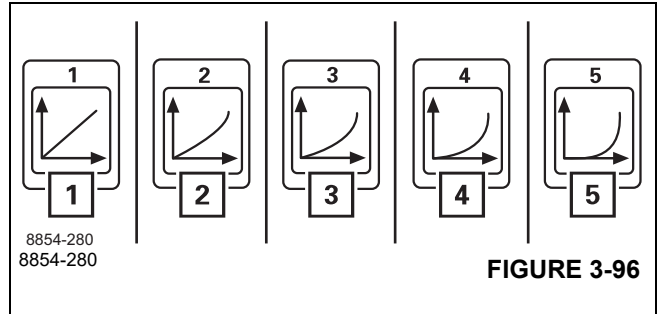

FIGURE 3-96
The higher the number of the characteristic curve, (1), (Figure 3-96) to (5), the further the control lever must be moved to get an increase in speed.